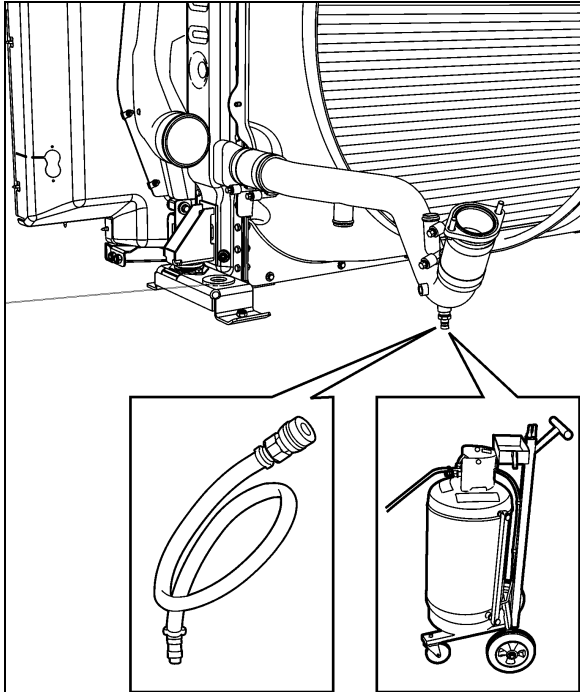

FIGURE 16: EXTRACTING COOLANT
5. Connect coolant extractor (Figure 16). Use coolant extractor to drain the coolant from the engine. An alternate method is to drain the coolant into a suitable container using the drain hose.